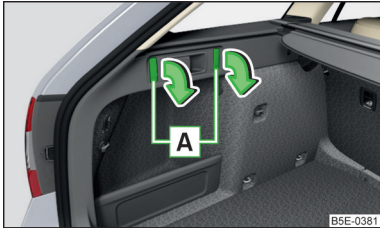

Fig. 102
► Press on the lower portion of the hook **A** and then fold it in direction of the arrow » Fig. 102.